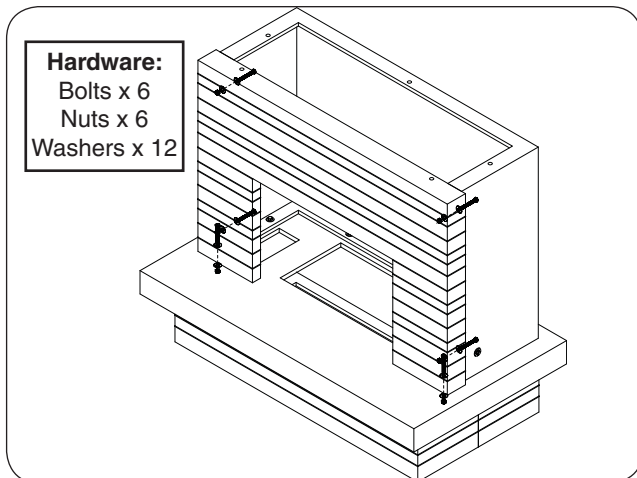

Fig. 15-2 Fasten fascia
2. Carefully align the pilot holes, and repeat the hardware installation process. See Fig. 15-2.